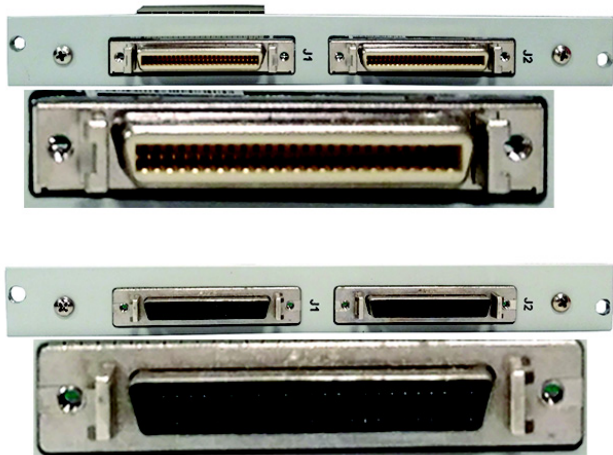

FIGURE 5. MDR backcard/connector and SCSI backcard/connector
3. Carefully attach the **backcard (MDR or SCSI, see Figure 5) to the AIO-16A card front card** from the back of the ADAM-M.